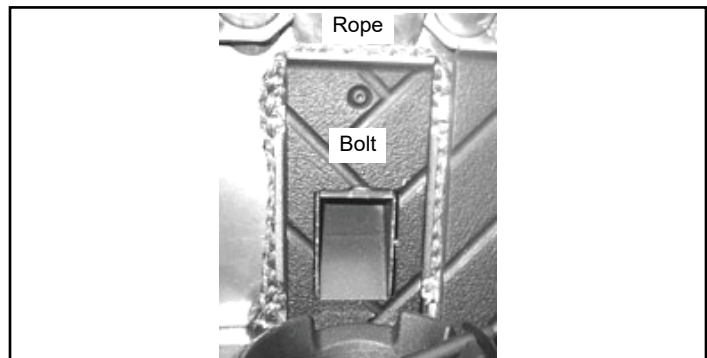

Figure 27.6
4. Add new center brick and taking care not to cross thread the bolt; reinstall brick (**Figure 27.6**).